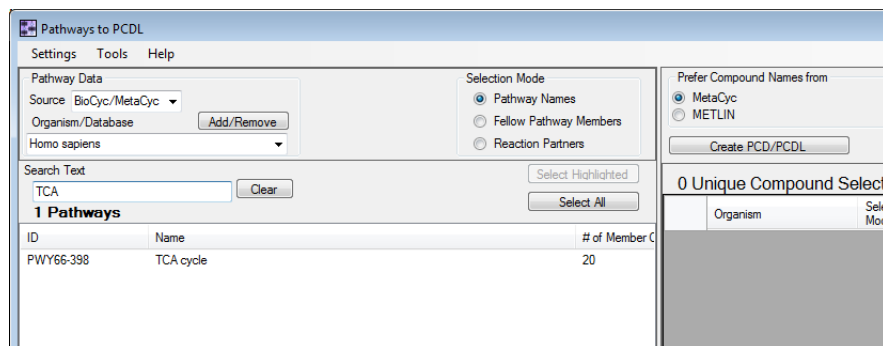

Figure 14 Reduction in the number of pathways using TCA for the search text
- b Review the updated list of pathways in the display pane (Figure 14 on page 22). The number of pathways in this example is reduced to a single pathway.